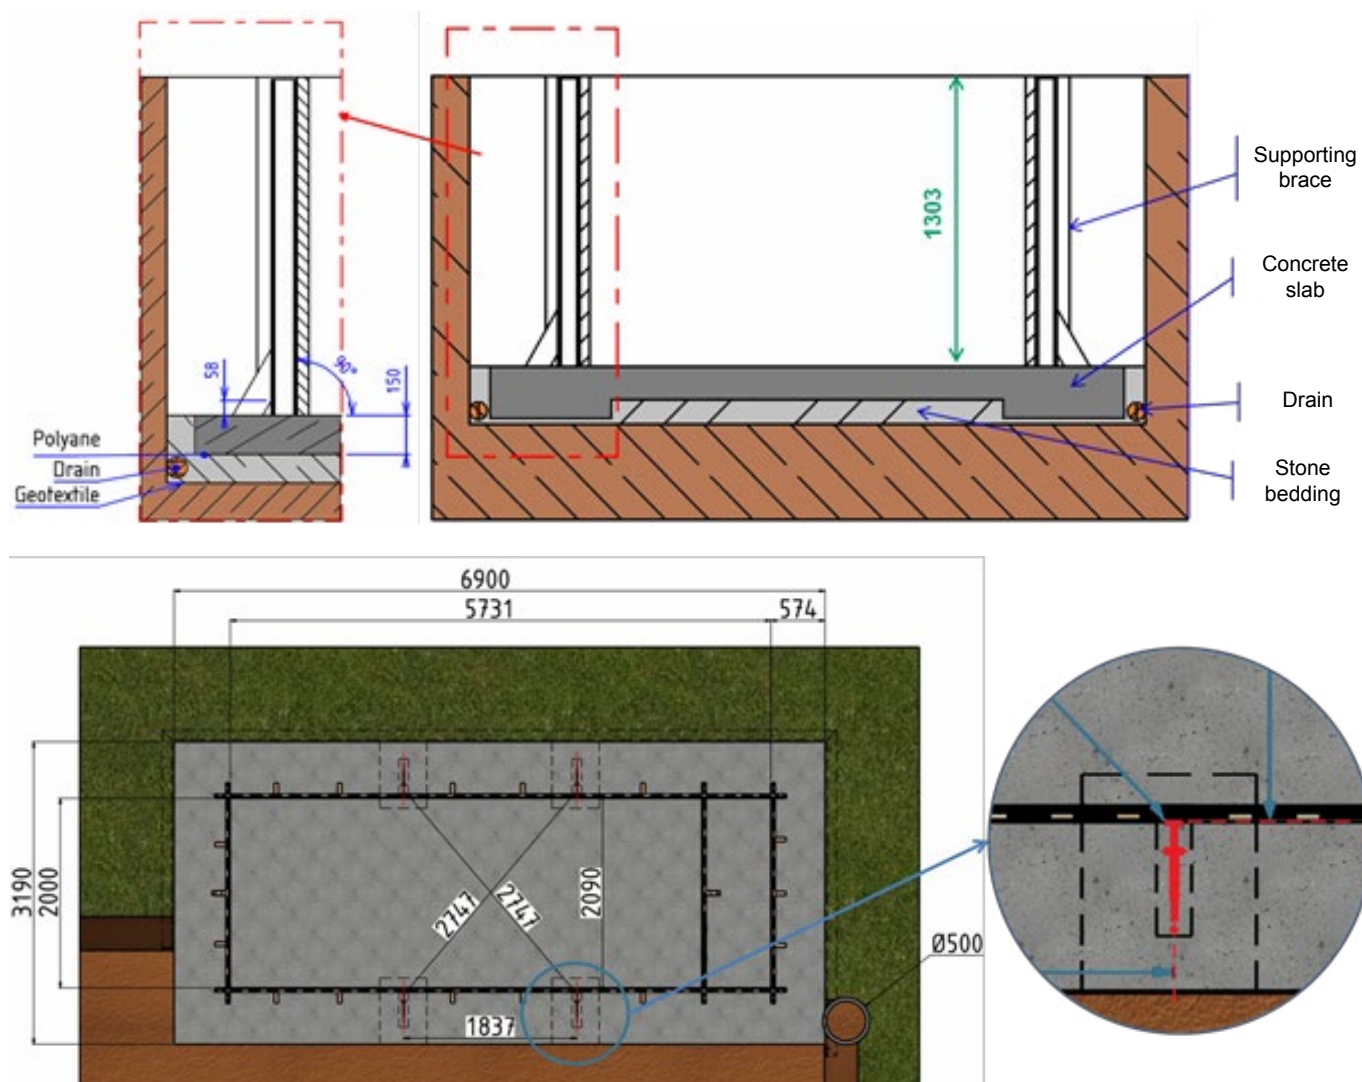

Figure 4 – Location of the supporting braces
TIP: You can use the supporting braces to visualise how high the concrete slab should be once it has been poured. To do this, taking the top of the pool wall, below the coping, as level 0 (underneath the coping, see *Figure 4*), measure 1.303 m and mark this distance on the front of the supporting brace. This mark will correspond to the height of the finished concrete slab.
- ❗ Check that all the dimensions quoted in *Figure 4* are correct before proceeding with the next step.